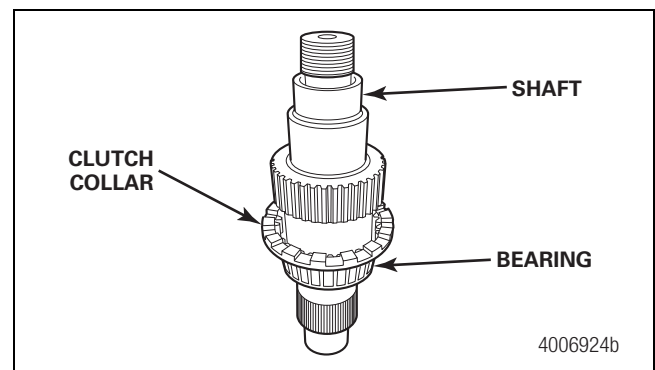

Figure 6.2
4. Install the clutch collar. Figure 6.2.